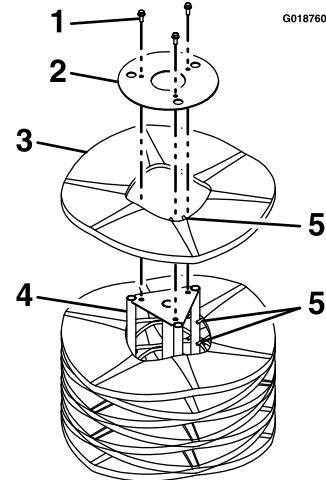

Figure 34
- 5. Stand the broom core assembly on end so that the removable end retainer plate faces upward (Figure 34).
- 6. Remove and retain the hardware from the end-retainer plate (Figure 34).
- 8. Install the new segment(s) by staggering the metal ring alignment fingers as shown in Figure 34.